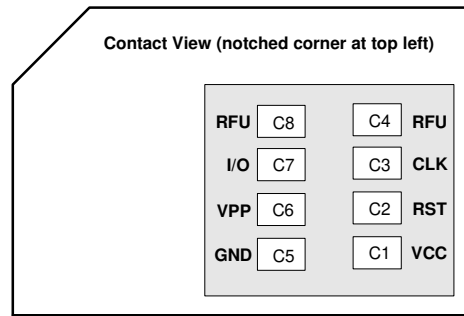

Figure 3-4: SIM card contacts (contact view)
1. See Figure 3-4 on page 34 for SIM card contacts.